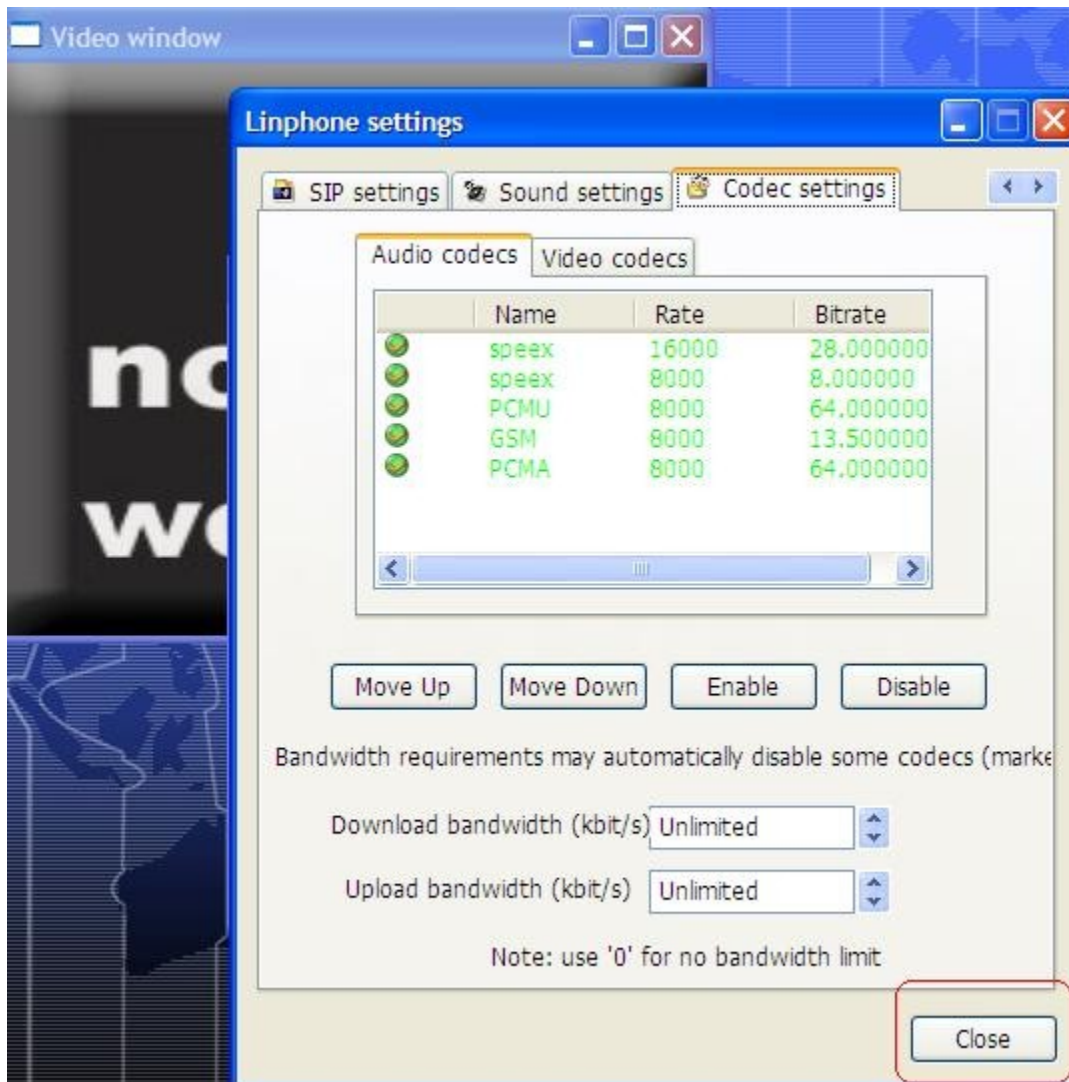
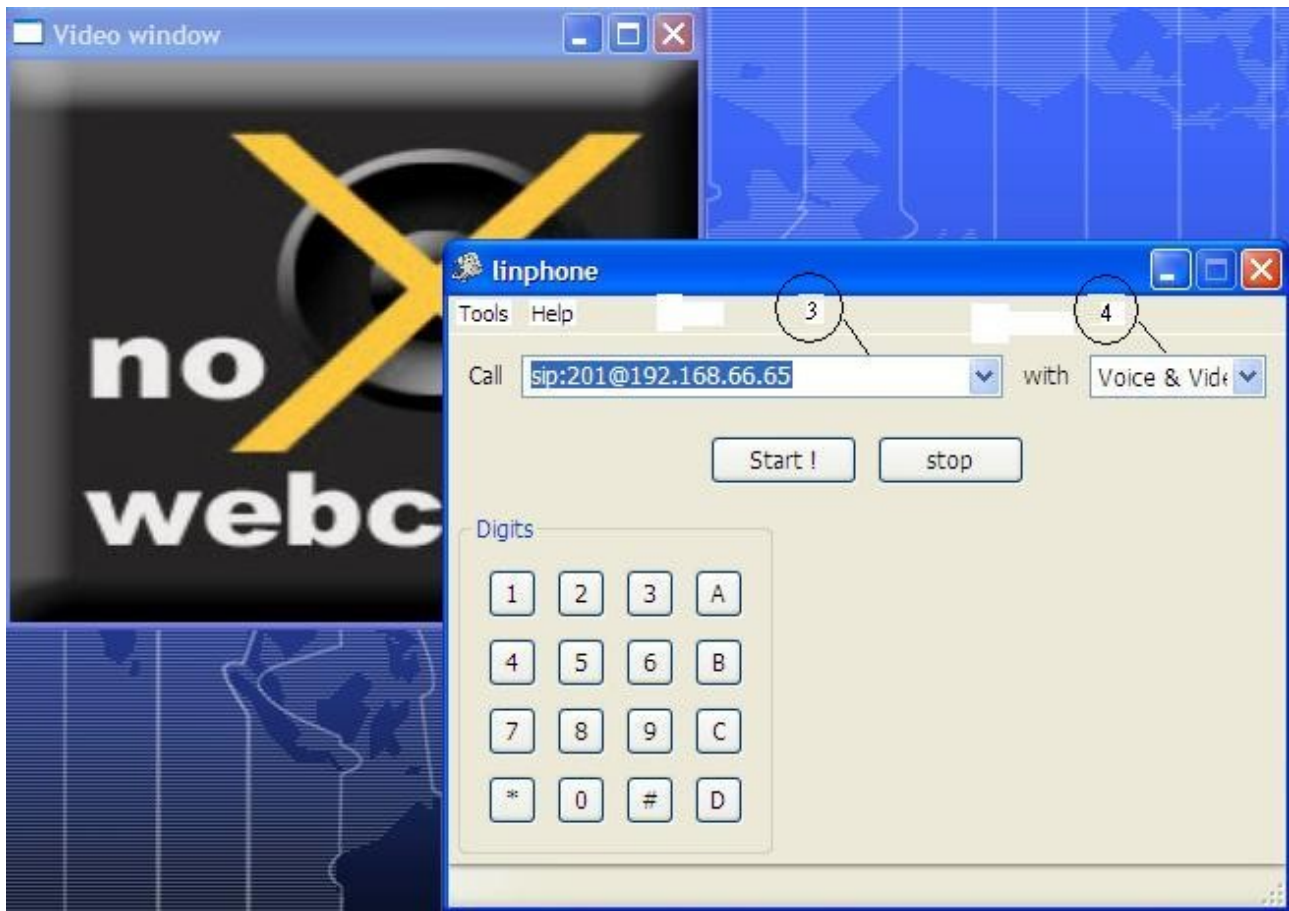

Figure 7-7
Figure 7-8
e. Finally, press “Close” button to finish the setting process. (circle in Figure 7-7).
For example, we want to make a call from softphone (SIP phone number : 202@192.168.66.65) to the device (SIP phone number : 201@192.168.66.65). As you have finished all steps in Chapter 7-1, the only thing you have to do here is enter the SIP phone number you want to call (text box 3 in Figure 7-7), choose “Voice & Video” in 4 (Figure 7-8) if you want a call with voice & video simultaneously, after that, press “Start!” button in the linphone panel. A ring tone should be heard on the SIP Cam side, after about 5 seconds and ring tone changed from “DU-----DU-----”(longer time gap between two "DU" sound) to “DU—DU—DU”(shorter time gap between two "DU" sound), press PIN code designated in the Phone / Incoming call, after that, phone should be connected, so image on the device side will appear, (through the camera lens) , you can talk with the man on the device side (if any), check the quality of the voice and the video. After test is done, you can press “stop” button in the linphone panel to end the phone.